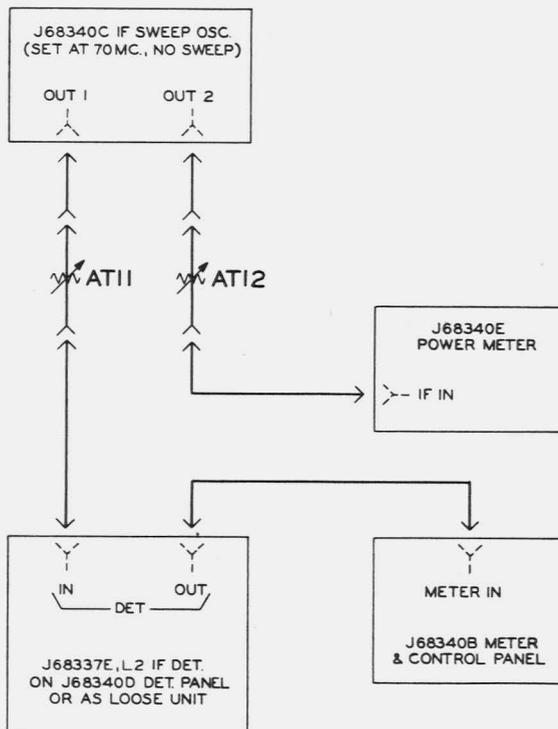

Fig. 10 - Circuit to Check Sensitivity of IF Detector
(1) Arrange the circuit of Fig. 10. Adjust the oscillator to 55 MC. This may be done by tuning the frequency meter in the oscillator panel to 55 MC and then turning the sweep motor shaft